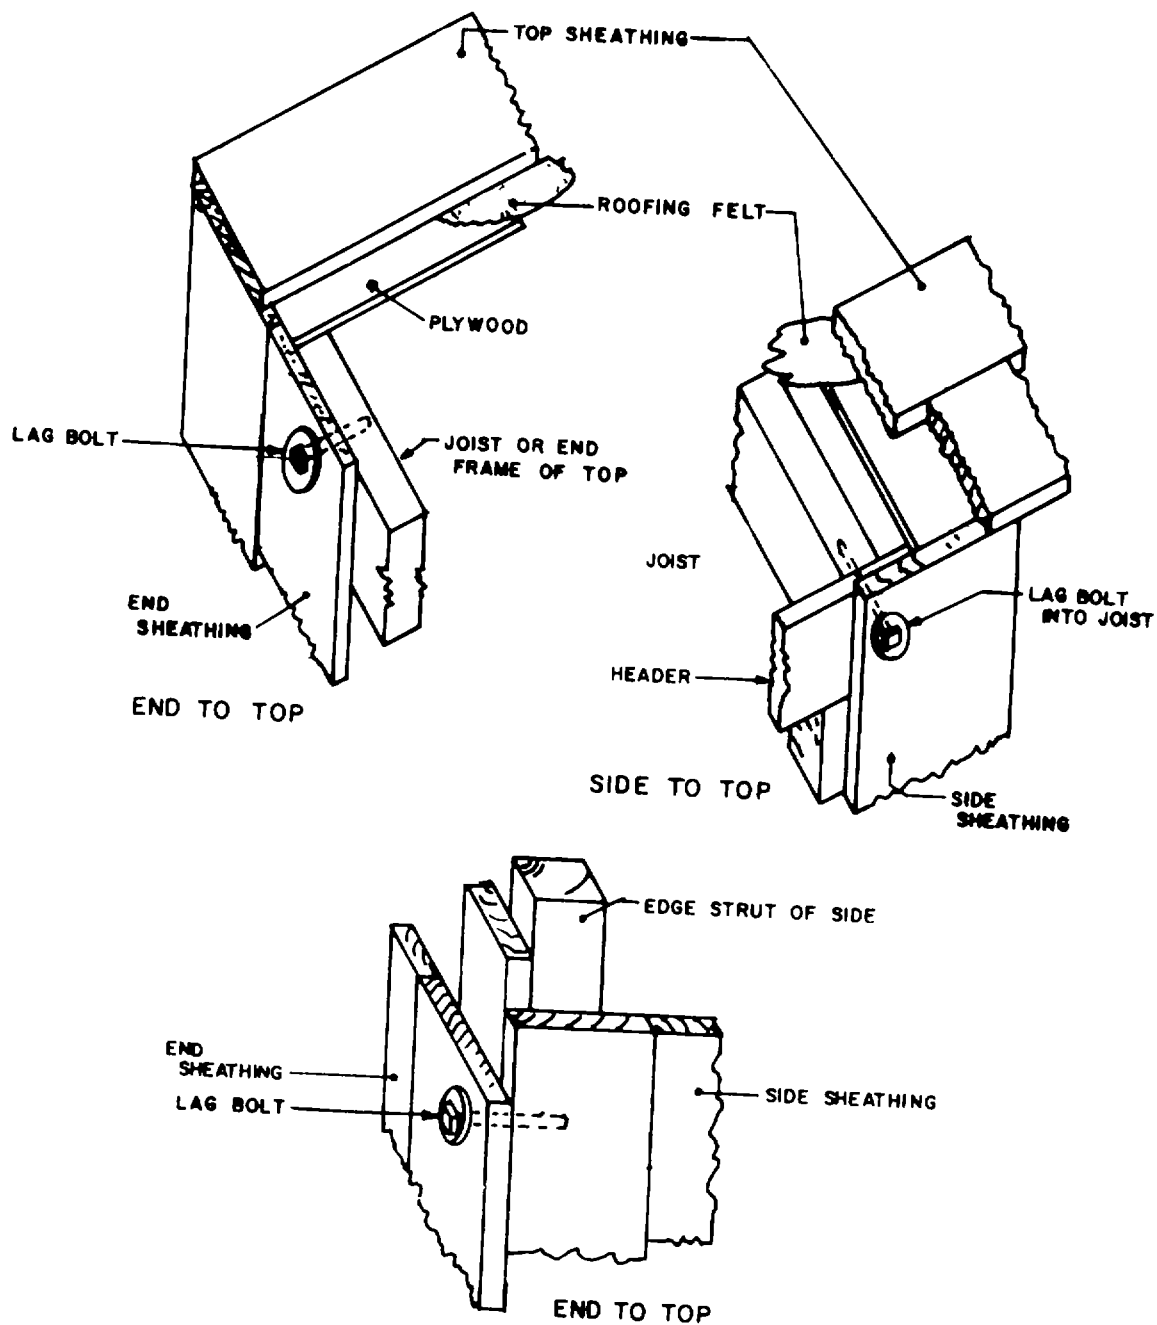

Figure D-3-9. Assembly of Bolted Crate.
(3) Fastening Sides to Top. Lag bolts, 3/8-inch diameter by 3-1/2 inches long, shall be used to fasten the sides to the top. These lag bolts shall be placed so that there is one in the end of each Joist at the approximate center (fig. D-3-9). For tops without joists, lag bolts shall be placed at the approximate center of the side frame member of the top and spaced no greater than 24 inches apart.